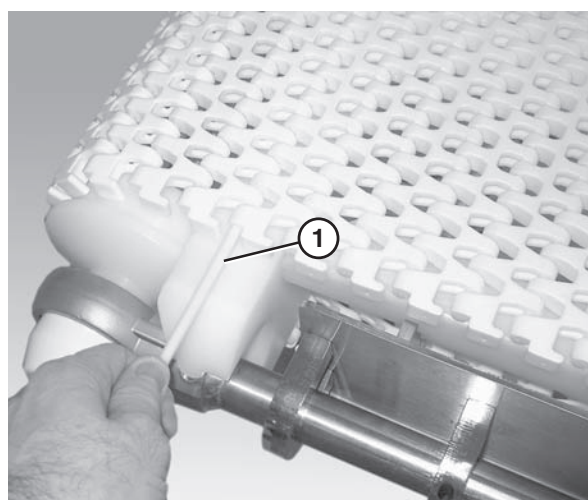

Figure 43
5. Insert the belt rod (**Figure 43, item 1**).